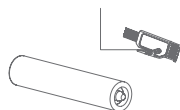

FIGURE 12
1. Remove clean water tank and fill with water containing cleaning shampoo to the self-cleaning water line, 260ml. (Figure 12)